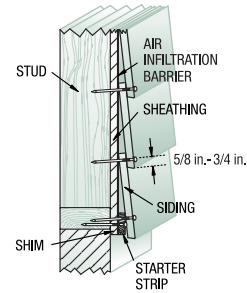

FIG. 4
- Although not recommended, where 24 in. o.c. vertical framing is used, wood-based sheathing is required. Follow product-specific nailing pattern (see Fig 4). Nail to framing 24 in. o.c. with intermediate nailing 12 in. o.c. to sheathing with a 6d galvanized ring shank nail or equivalent. This effectively creates a 12 in. o.c. nailing schedule.